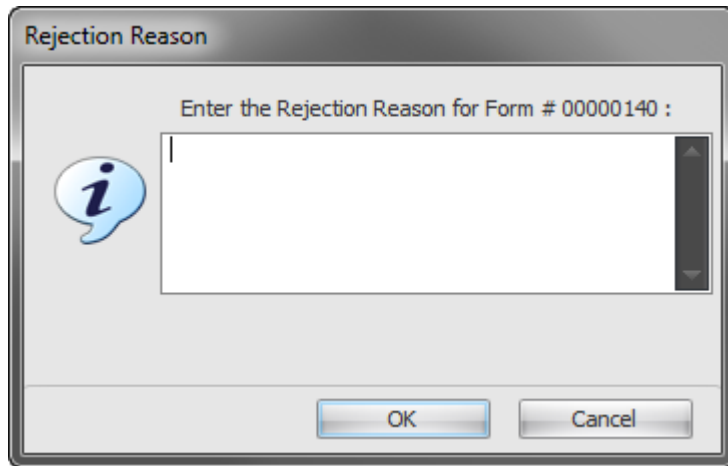

Figure 56. Rejection Reason Dialog Box
2. Click **Yes**. The **Rejection Reason** dialog box opens, as shown in Figure 56.